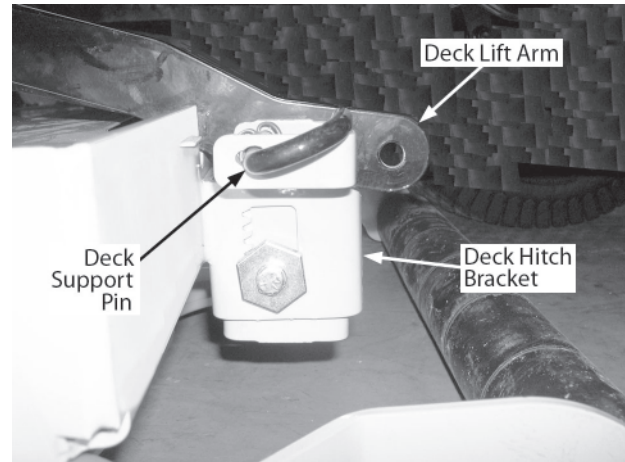

Figure 3-17
- Maneuver the deck frame as necessary to align the deck frame lift arms with the slots in the hitch brackets on the rear of the mower deck. Refer to Figure 3-17.
- On either side of the deck, pull and hold the deck support pin in the hitch bracket outward. Refer to Figure 3-17.
- Lift the deck frame and align the forward-most of the two rear holes of the lift arm with the deck support pin; then lower the hitch arm into the slot of the hitch bracket. Align the lift arm hole with the support pin and release the pin so that its spring tension pushes the pin fully through the lift arm. See Figure 3-17.